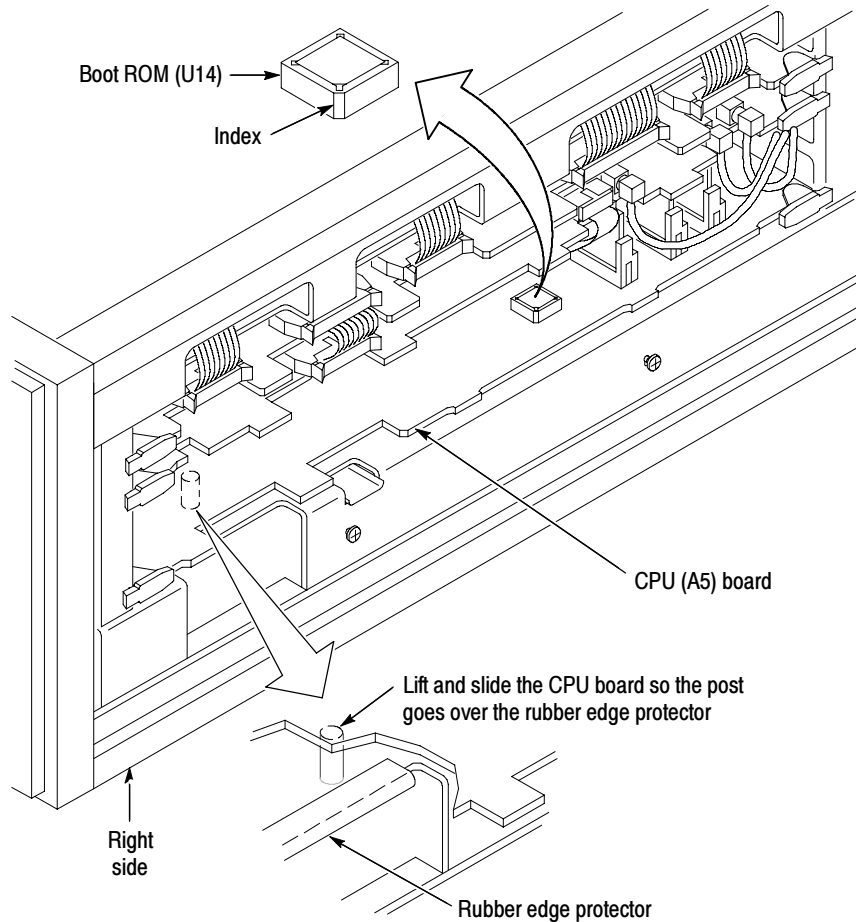

Figure 13: Replacing the Boot ROM
- b. Slide the CPU (A5) circuit board out until you can reach the Boot ROM (A5U14). You may need to lift the CPU (A5) circuit board over a board post located below the board. See Figure 13.
- c. Remove the existing Boot ROM (A5U14) using an extraction tool, and replace it with the supplied Boot ROM (A5U14) on the CPU (A5) circuit board as shown in Figure 13. Note the index on the corner of the Boot ROM (A5U14).